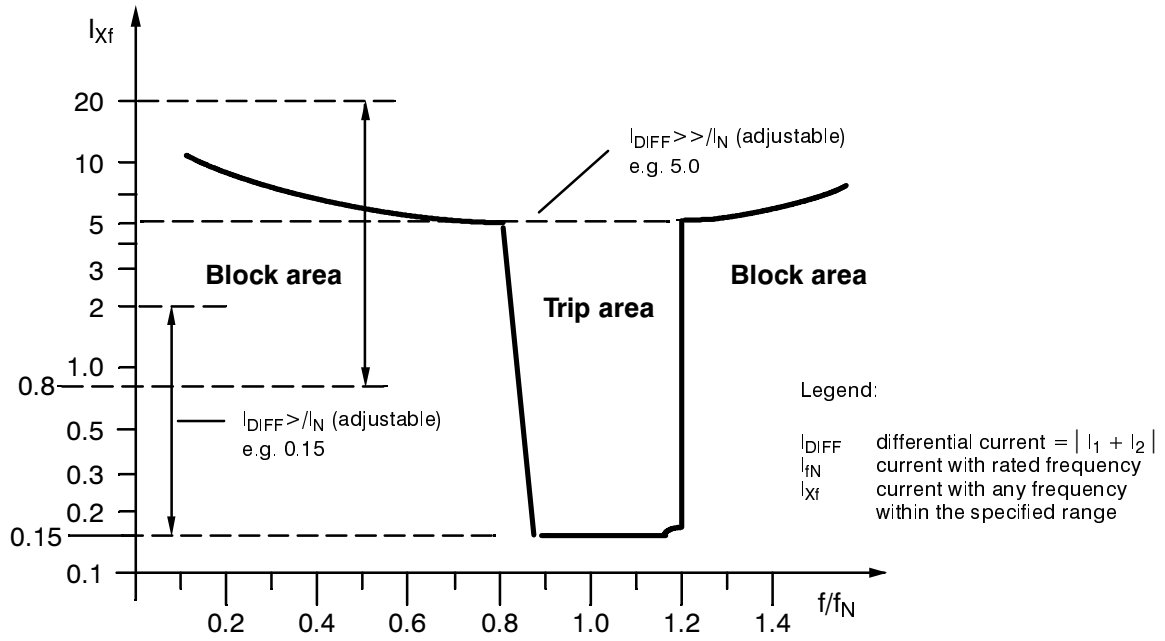

Figure 3.4 Frequency dependency (transformer protection)
– Frequency in range  $0.95 \leq f/f_N \leq 1.05$   $\leq 1$  % refer also to Figure 3.4